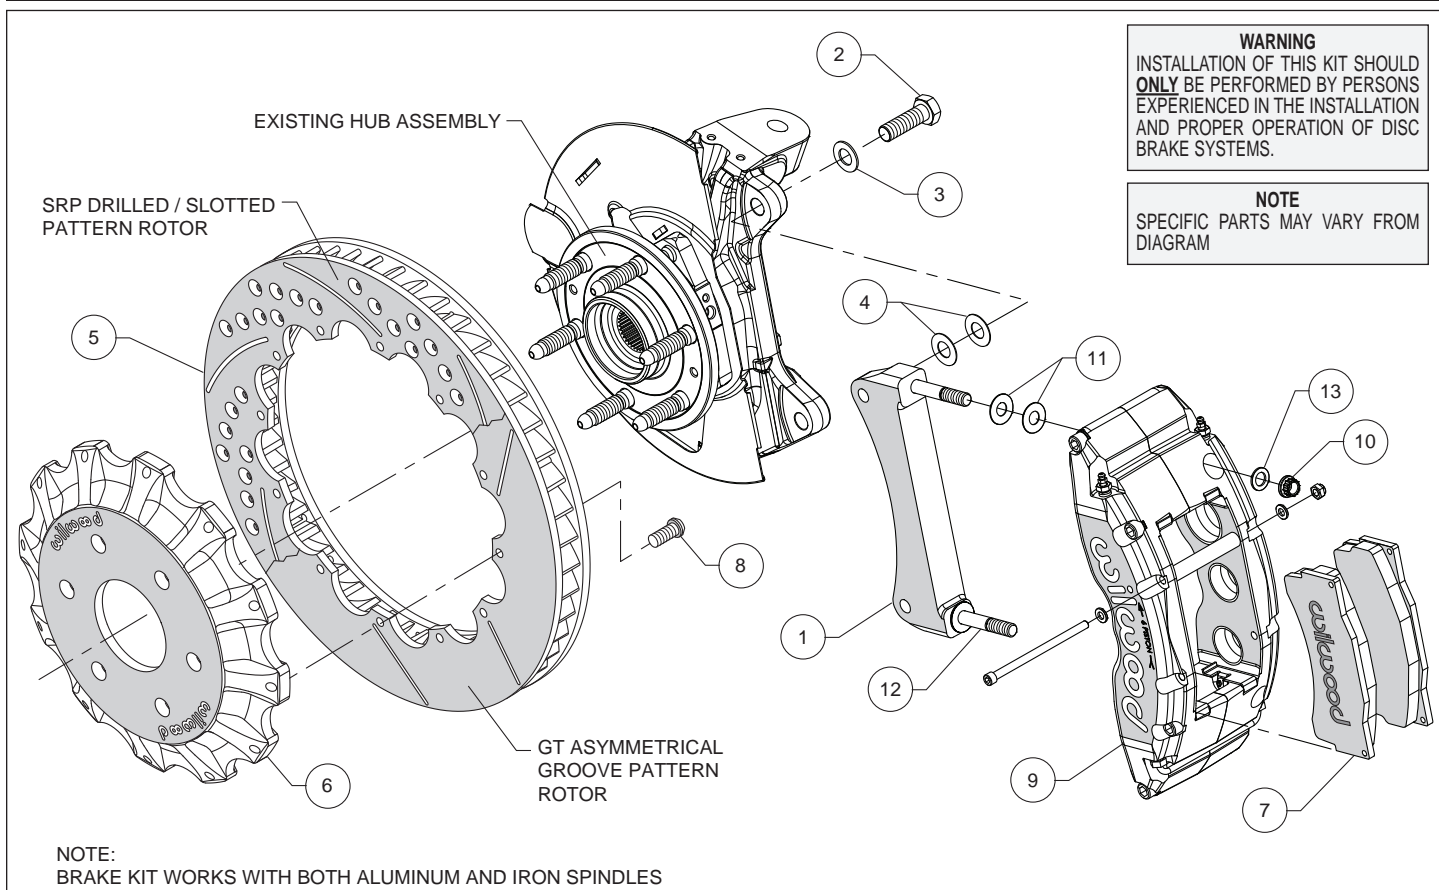

Figure 1. Typical Installation Configuration
**Assembly Instructions** (numbers in parenthesis refer to the parts list and Figure 1 on the preceding page):
- The caliper mount bracket (1) should initially be installed with clean, dry threads on the mounting bolts. Orient the bracket as shown in Figure 1, and install using washers (3) and bolts (2). Initially place two .029 thick shims (4) on each bolt between the bracket and upright, Figure 1. Temporarily tighten the mounting bolts. **NOTE:** *The bracket must fit squarely against the mount bosses on the upright.* Inspect for interference from casting irregularities, machining ridges, burrs, etc. Later, after the caliper alignment has been checked, the mount bolts will be secured using red *Loctite*® 271.
- Orient the rotor (5) and the hat (6) as shown in Figure 1. Attach rotor to hat using bolts (8). Finger tighten. Using an alternating sequence, remove bolts (8) one at a time, apply red *Loctite*® 271 to the threads and torque to 25 ft-lb.
- NOTE:** *This kit contains distinct right and left hand calipers that must be mounted in a specific direction, as described below.* Lubricate the caliper mounting studs (12) with lightweight oil. Initially place two .030" thick shims (11) on each stud as shown in Figure 1. Mount the caliper (9) onto the bracket (1) using lock nuts (10) and washers (13), Figure 1. Ensure that the caliper is mounted so that the largest pistons are at the rotor exit end of the caliper, in relation to the direction of rotor rotation and with the bleed screws pointing up. Temporarily tighten the lock nuts and view the rotor through the top opening of the caliper. The rotor should be centered in the caliper. If not, adjust by adding or subtracting shims (4) between the bracket and the upright. Always use the same amount of shims on each of the two mounting bolts. Once the caliper alignment is correct, remove the bracket mounting bolts (2) one at a time, apply red *Loctite*® 271 to the threads, and torque to 70 ft-lb.
- Remove the two caliper center bridge pad retainer bolts, nuts, and tubes from the caliper. Insert the brake pads (7) into the caliper, with the friction material facing the rotor. Check that the top of the brake pad is flush with the outside diameter of the rotor. If not, adjust by adding or subtracting shims (11) between the caliper and the bracket. After the caliper pad height is set, reinstall the center bridge pad retainer tubes, bolts, and lock nuts. The lock nut should be snug without play in the bolt or tube. Be cautious not to over tighten. Torque the caliper lock nuts (10) to 47 ft-lb.